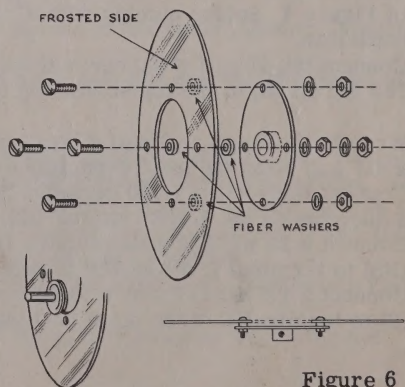

Figure 6
- (✓) Connect the other lead to pin 6 on the tube socket (NS).
- (✓) Connect one end of an orange wire, 8" long, to pin 6 (S). Leave the other end free.
- (✓) Connect one end of a red wire, 7" long, to pin 5 (S). Leave the other end free.
- (✓) Connect a black wire to pin 4 (NS). Run the wire through the 5/16" rubber grommet to terminal 1 of the pilot light (NS).
- (✓) Connect a short bare wire from terminal 2 of the pilot light (S) to the adjacent solder lug (S).
- (✓) Connect the 3/8" lead to pin 4 (NS).
- (✓) Connect the end of a black wire 8" long to pin 4 (S). Leave the other end free.
- (✓) Assemble the tuning dial as shown in Figure 6, using 3-48 screws, lockwashers and nuts with 1/16" fiber spacing washers.